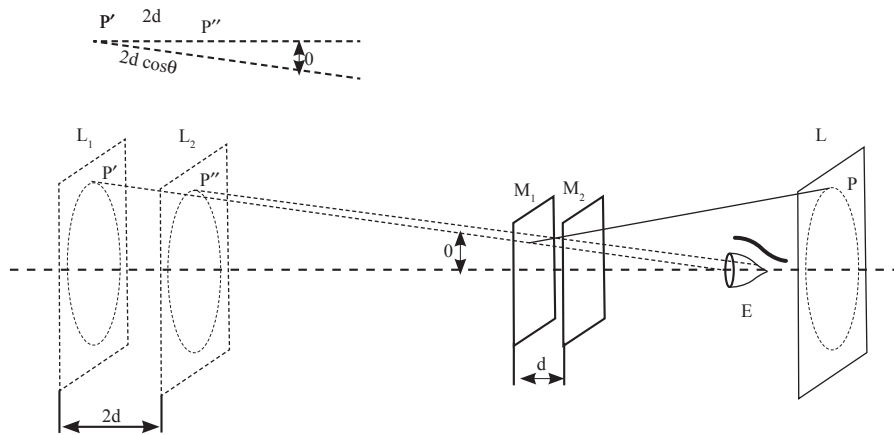

*Fig. 1: Michelson Interferometer*
Figure 1 shows a diagram of Michelson's Interferometer. Firstly, the beam of light from the Source (S) strikes the beam splitter, this splitter reflects 50% of the light falling on it and transmits the other 50% of it. The incident beam splits into two beams; one beam is reflected toward the mirror  $M_1$ , which is fix at its place. The other beam is transmitted toward the movable mirror  $M_2$ . Then both of these mirrors reflect the light back toward the Beam Splitter (BS). The light reflected from mirror  $M_1$  is transmitted through the Beam splitter (BS) to the detector E, and the other light reflected form  $M_2$  is first transmitted through the plate CP and then reflected by the beam splitter (BS) to the detector E. These rays interfere with each other and give an interference pattern.
In Figure 1,  $M_2'$  is a virtual image of the mirror  $M_2$ . The path of light in the Michelson interferometer can be seen as the path of light in the air plate present between  $M_1$  and  $M_2'$ .